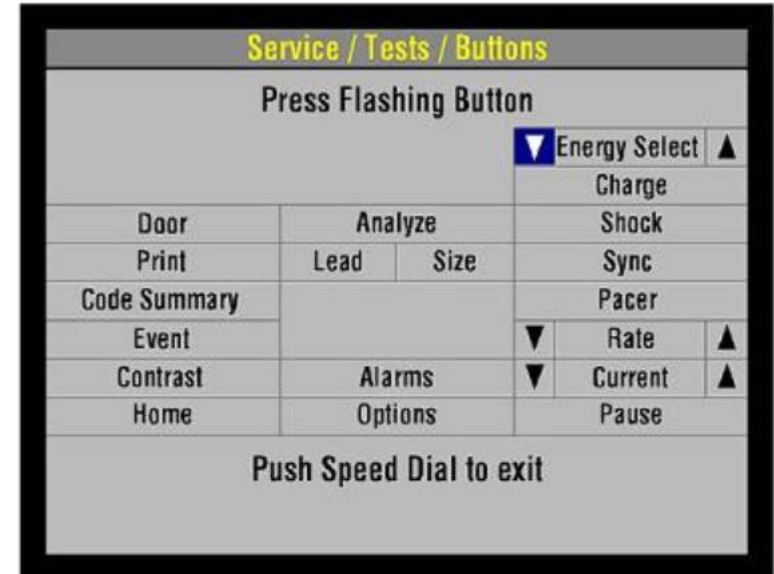

Figure 1.6: Keypad Test
2. Select **BUTTONS** in the **Service/Tests** submenu as shown in Figure 1.6.